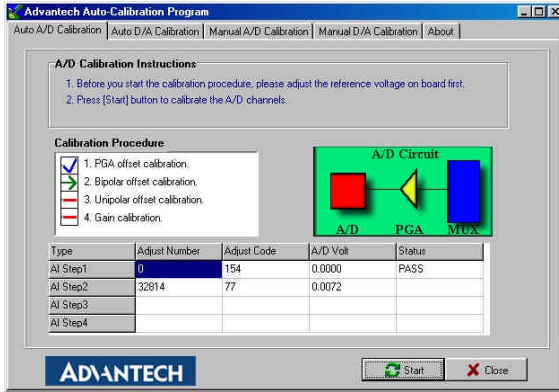

Fig. 5-6: A/D Calibration Procedure 2
Step 6: The second A/D calibration procedure is enabled (Fig. 5-6)